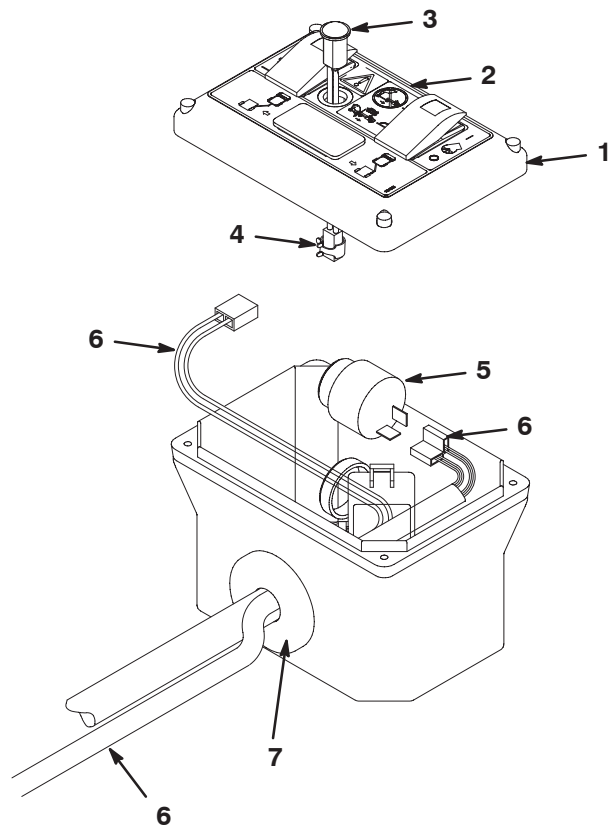

Figure 9
14. Affix the new control box decal to the new control box cover (Fig. 9).
15. Install the previously removed switches and plug into new cover (Fig. 9).
16. Insert the indicator light into the opening in the cover (Fig. 9). Place the clamp around the indicator light body to secure it to the cover (Fig. 9).
18. Insert the two connector end of the new control box wire harness through the control box grommet and strain relief clamp and into the box (Fig. 9).
19. Connect one of the harness connectors to the audio alarm and position the alarm into the box (Fig. 9 & 10).
20. Connect the other harness connector to the indicator light (Fig. 9 & 10).